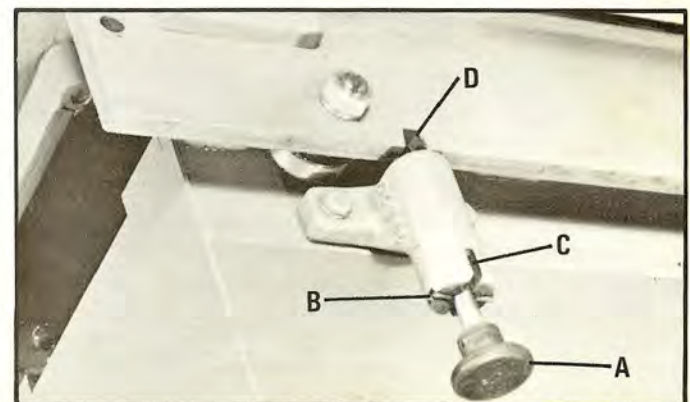

Fig. 35
The sliding table can be locked in place by pulling down on plunger (A) Fig. 35, and turning it 90° so that pin (B) engages slot (C) and plunger engages notch (D) in the sliding table.